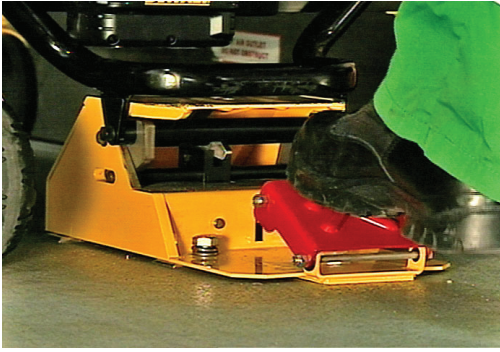

Figure 15 – Press down on the foot pedal
1. Press down on the foot pedal until the locking mechanism releases the cot (Figure 15).